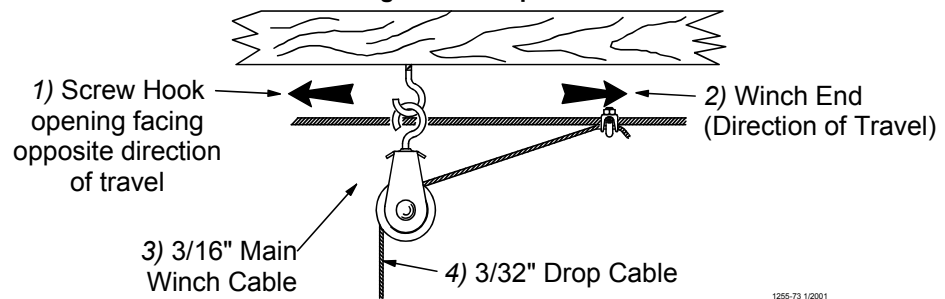
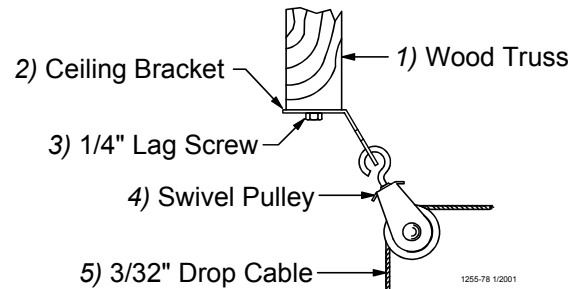

Figure 11. Screw Hook Installation
Figure 15. Pulley Installation
The openings of the screw hooks must be pointed away from the direction of travel when the Power Winch raises the feeder line. See **Figure 11**.
6. After securing the Ceiling Hook to the truss, slide the hook of a Swivel Pulley into the slot, as shown in **Figure 15**.
2. Thread the end of the 3/32" or 1/8" cable through the pulley toward the winch. Clamp this end to the 3/16" winch cable about 6" [150 mm] from the last pulley, using a 3/16" cable clamp. See applicable figure; **Figure 11** or **Figure 15**.